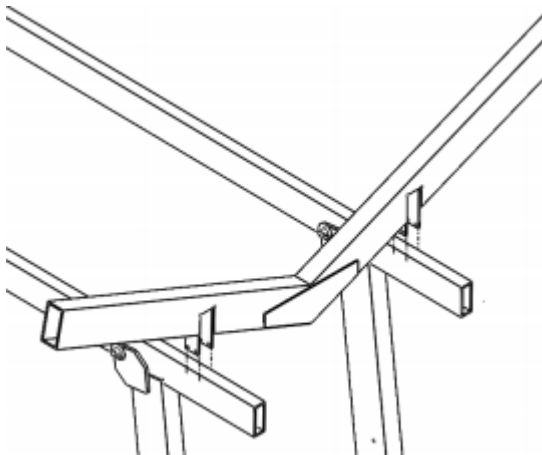

Figure 16
2. Attach one (1) 3/8" Flat Washer to two (2) 3/8" Hex Bolts and insert the Hex Bolts into the corresponding holes on the V-Bunk as shown in Figure 16.
3. Attach one (1) Lock Washer and one (1) Hex Nut to the protruding ends of the Hex Bolts and hand tighten.